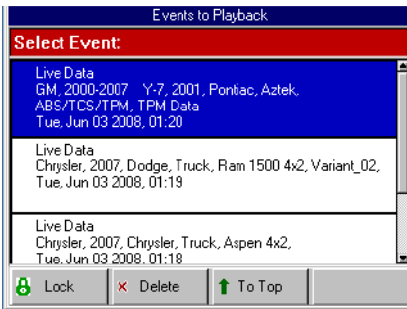

Figure 17: Events to Playback Screen
- 3 Select **Playback** and press the **ENTER** key. This displays the Events to Playback screen (Figure 17 on page 16).